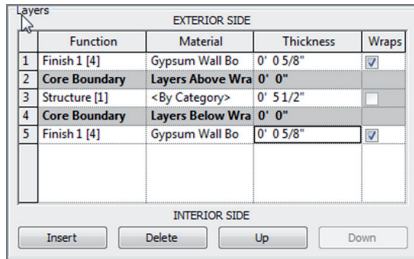

FIGURE BC1.4: Adding a 5/8" gypsum layer to the interior side of the wall
10. Click the Down button, as shown in Figure BC1.4. It's located below the Layers area all the way to the right. Your new layer becomes 5.
15. Change Thickness to 5/8" (13 mm). Your Layers field should resemble Figure BC1.4.